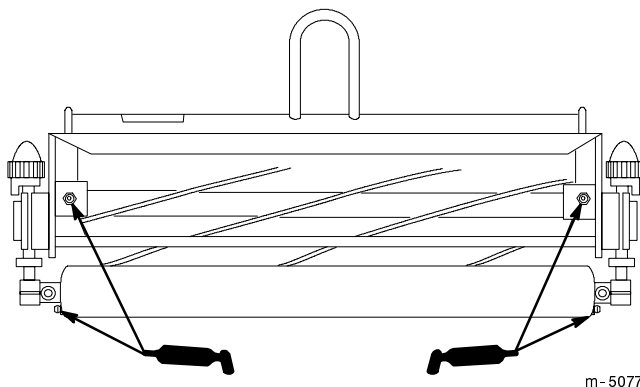

Figure 8
There are six grease fittings on each cutting unit (Fig. 8 and 9) that should be greased at least once every two weeks. Lubricate them using a No. 2 multipurpose lithium-based grease. For best results, use a hand-operated grease gun.
2. Grease the reel bearings (Fig. 8) as follows:
3. Apply grease to the front and rear roller bearings (Fig. 8 and 9) until it begins to show around the seal lips.